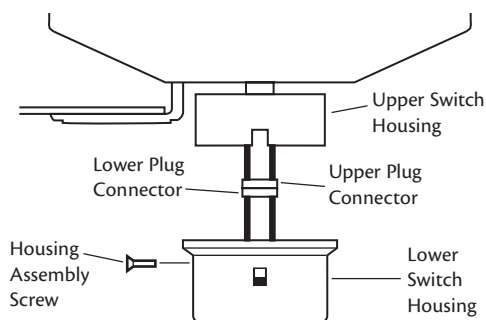

Figure 27 - Connecting the plug connectors
1. Connect the upper plug connector from the motor to the lower plug connector in the lower switch housing assembly. See Figure 27.
2. Place the lower switch housing assembly over the upper switch housing. Align the side screw holes in the upper and lower switch housings. Attach the lower switch housing to the upper switch housing with three #6-32 x 3/8" housing assembly screws. See Figure 27.